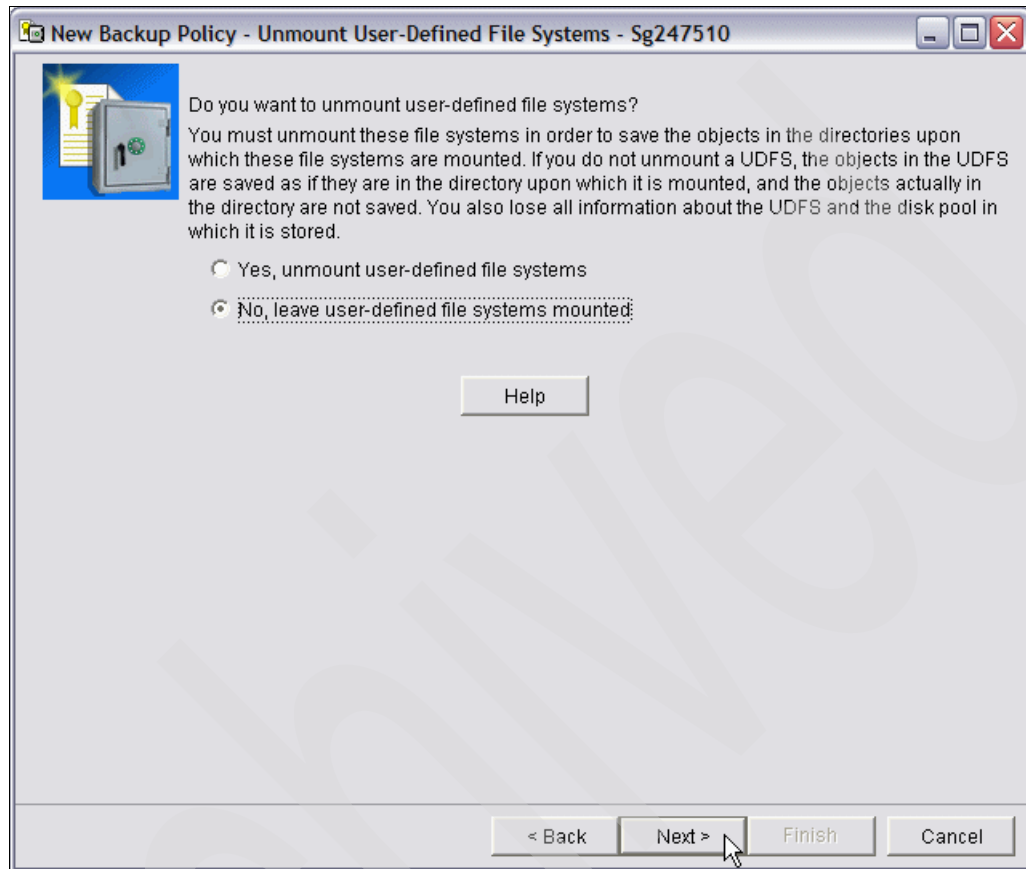

Figure 6-56 New Backup Policy - Unmount User-Defined File System
14. The widow shown in Figure 6-56 opens.